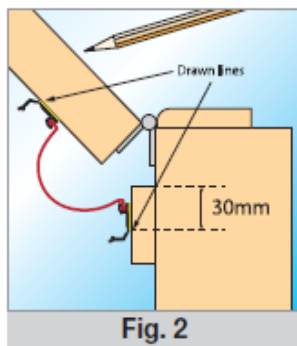

Fig. 2
- 6 Remove tape backing from door side rigid profile and stick in position with outer edge on drawn line (see fig 2)